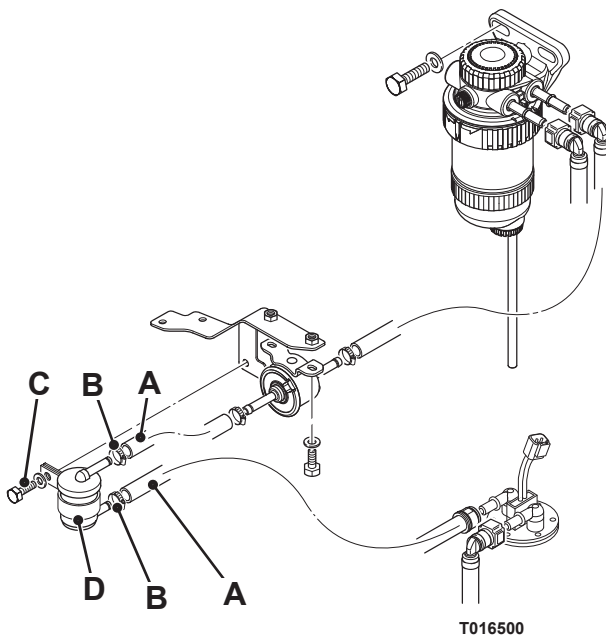

Fig 19.
- 2 Clamp the fuel hoses **A**. ⇒ Fig 19. \(□ 3-39\)